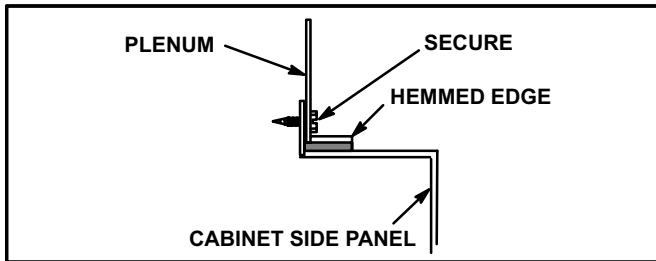

FIGURE 12
- 1 - Flange bottom edge of plenum with a hemmed edge. See figure 12.
- 2 - In all cases, secure the plenum to the top flanges of the furnace using sheet metal screws. See figure 12.